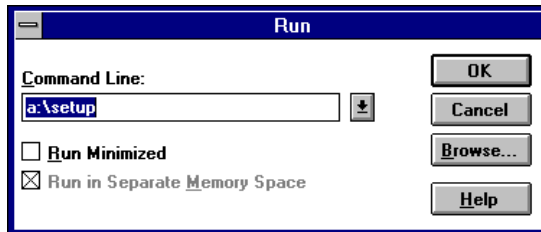

Figure 3-1. Starting the Installation Program
2. For Windows NT 3.51, select **File, Run** from the Program Manager. For Windows NT 4.x, select **Start-->Run** at the Desktop. The Run dialog box appears (Figure 3-1).